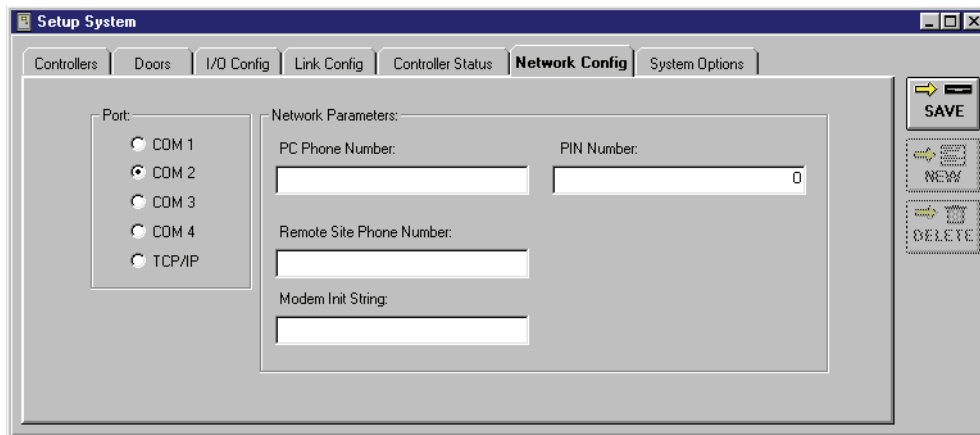

Figure 2-3: Network Configuration Tab
1. From the Setup System window, click on the **Network Config** tab. The Network Configuration window appears (see Figure 2-3).
2. Click on the COM port radio button (**1**, **2**, **3**, or **4**) corresponding to the computer’s COM port that will be used for communication between the host computer and the access control network. This will be either the COM port to which a direct serial connection or external modem is connected, or the COM port to which an internal modem is installed. Figure 2-3 shows COM port 2 enabled.
3. Click in the “PC Phone Number” field (see Figure 2-3), and enter the phone number for the modem attached to the host computer.
1. From the Setup System window, click on the **Network Config** tab. The Network Configuration window appears (see Figure 2-3 on page 4 of this section).